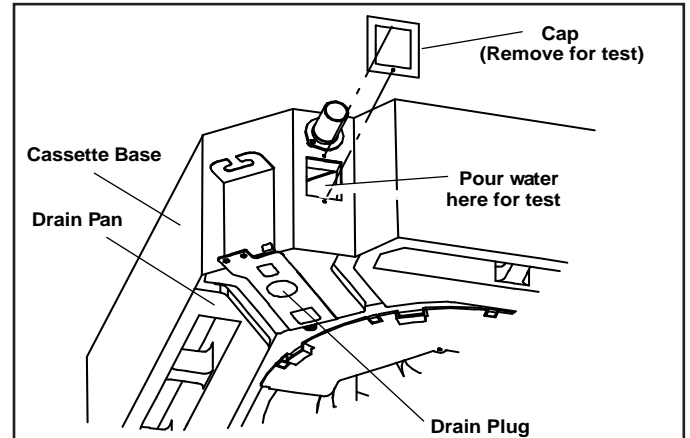

Figure 8. Test Condensate Drain
6. After system installation is complete, the condensate drain line must be checked for leaks and the condensate pumps must be checked to ensure proper operation. This check is part of the commissioning sequence. Pour water into the evaporator drain pan to ensure proper condensate drainage. See Figure 8. If a leak is found, shut down power to the unit at once and do not restore power to the unit until the problem has been resolved.